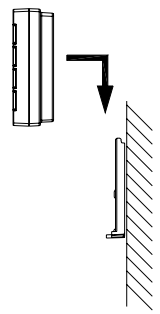

Fig. 4a.
6. Click the Keypad to the mounting bracket and screw the fixing screw.(Fig.4a &4b) Do not over-tighten the fixing screw.